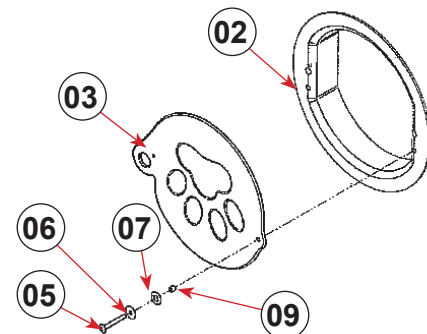

FIGURE 2.37 - Door Hinge Assembly
- STEP 7:** Use one phillips screw, one flat washer, the wave washer, and one small nylon standoff spacer to secure the hinge side of door. See FIGURE 2.37